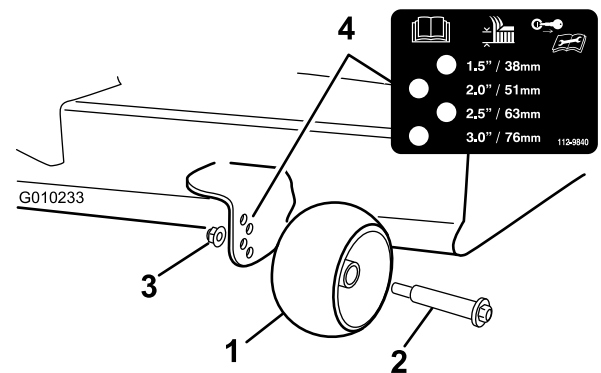

Figure 30
3. Adjust the anti-scalp rollers (Figure 30) to match the closest height-of-cut position.